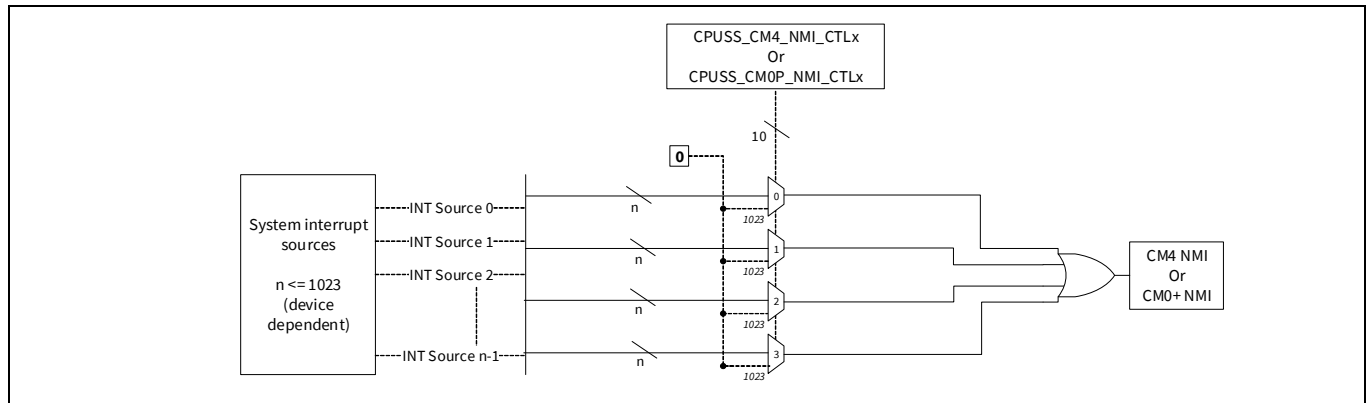

Figure 8-5. NMI trigger
- **NMI exception from a system interrupt:** Both Cortex®-M0+ and Cortex®-M4 provide an option to trigger an NMI exception using one of the 147 system interrupts. The NMI exception triggered due to the interrupt will execute the NMI handler pointed to by the active vector table. The CPUSS_CMx_NMI_CTL register selects the interrupt source that triggers the NMI from hardware. NMI is triggered when any of the four interrupts are triggered; that is, the interrupts are logically ORed. See Figure 8-5.